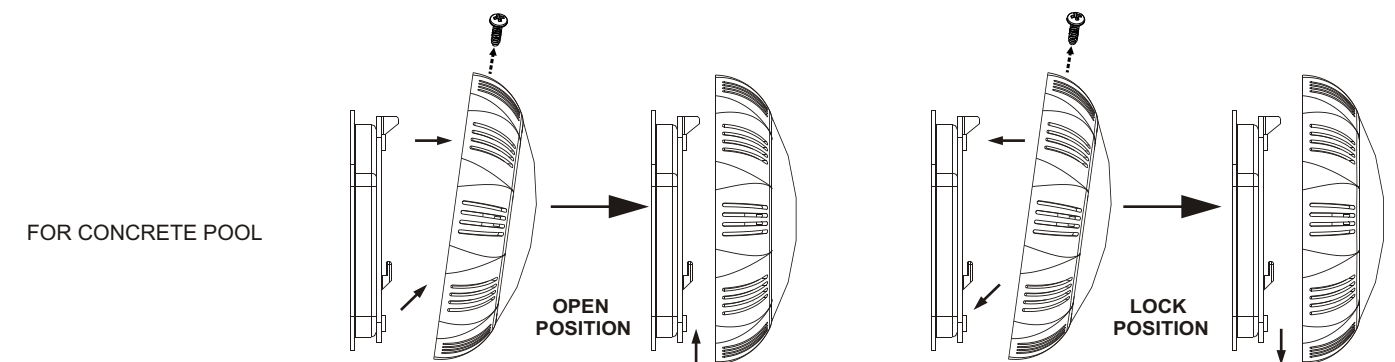
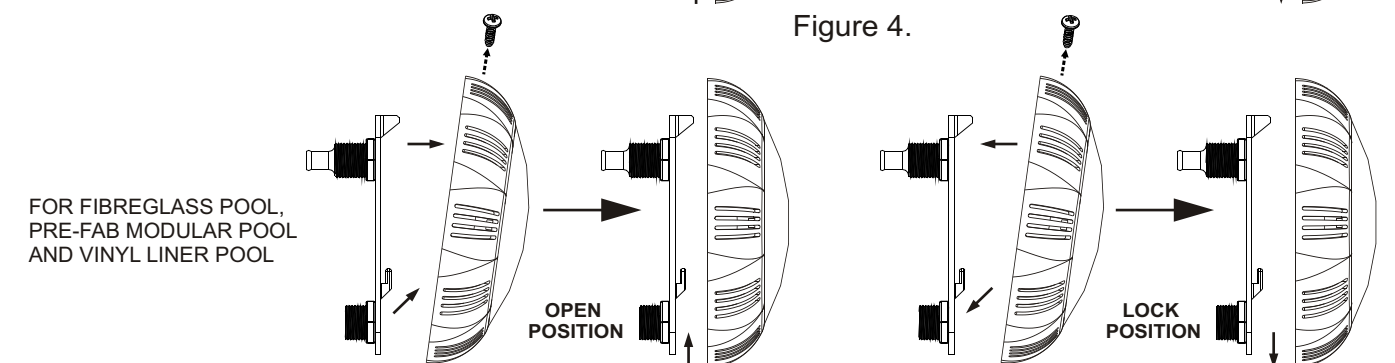

Figure 4.
Figure 5.
10. Rotating Locking System ensures light is secured to bracket, see Figure 4.(Figure 5.)